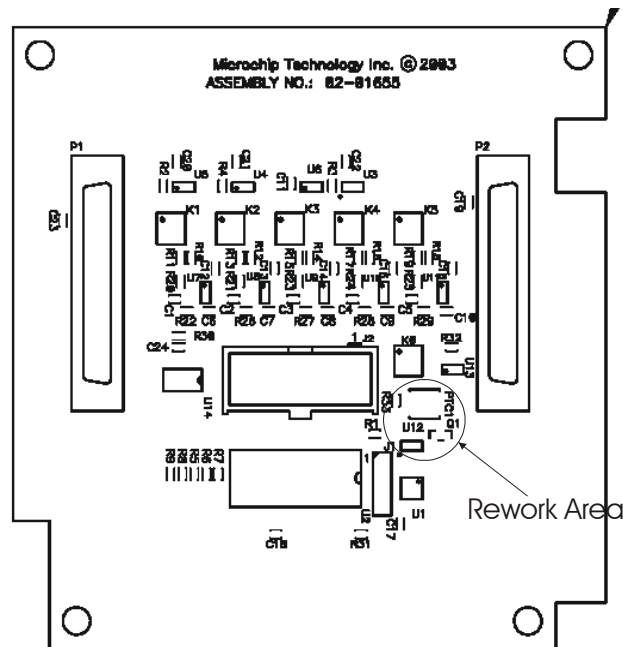

Figure 2: PCB Rework Drawing.
5. Locate PCB shown in Figure 2 marked ASSEMBLY NO: 02-01655
6. Remove component PTC1 from the PCB (refer to Figure 2 for details).